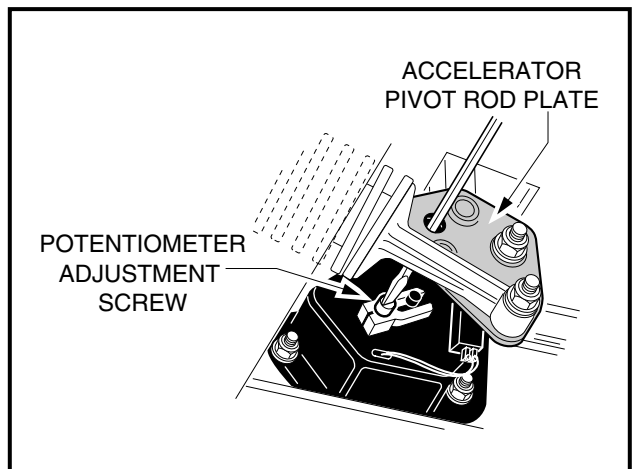

Figure 5-28 Potentiometer Adjustment Screw
- 5.11. Using a potentiometer adjustment tool or very small flat blade screwdriver (electronics type), turn the potentiometer adjustment screw until the CTM reads from 3.38 to 3.42 volts (**Figure 5-28, Page 5-26**). Then tighten the potentiometer lock nut to 5 in-lb (.6 N·m).